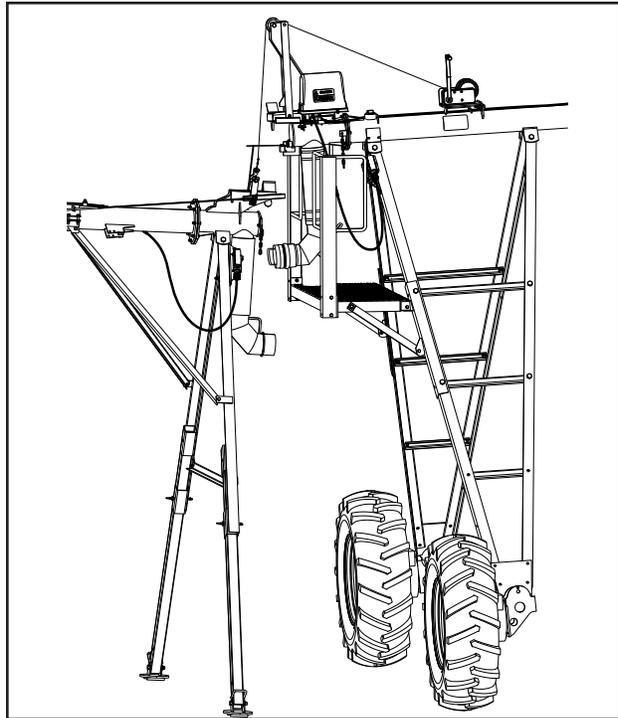

Figure 28-1 Span Dropped
16. Lower the span until the support legs contact the ground. See Figure 28-1.